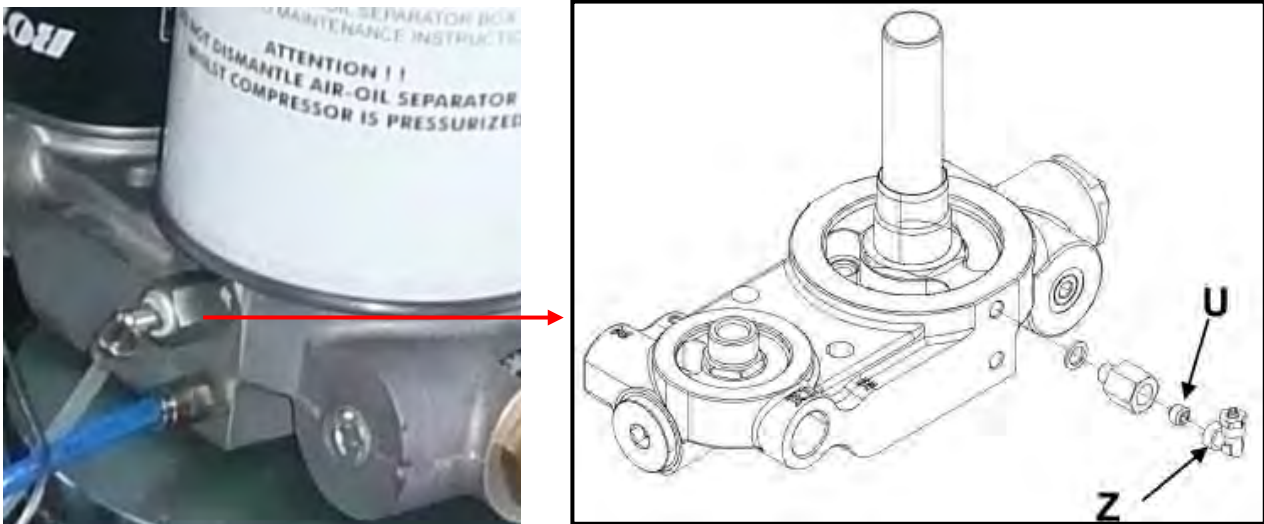

Figure 13.4-4 Oil recovery
If control and cleaning of the oil recovery nozzle is to be performed. Should you find a leak of oil mist mixed with compressed air, proceed with the following steps. (Figure 13.4-4).
- 1) Unscrew the fitting located at the center of the tank (Letter Z in Figure 13.4-4);
- 2) Inside the 90 degree fitting (Letter Z in Figure 13.4-4) is a nozzle (Letter U in Figure 13.4-4): make sure that its calibrated hole is not blocked (blow with compressed air);
**WARNING:** During normal operation of the compressor, inside the transparent scavenger line, part (Z), you will notice a certain amount of oil flow from the said fitting (Z) towards the head of the compressor